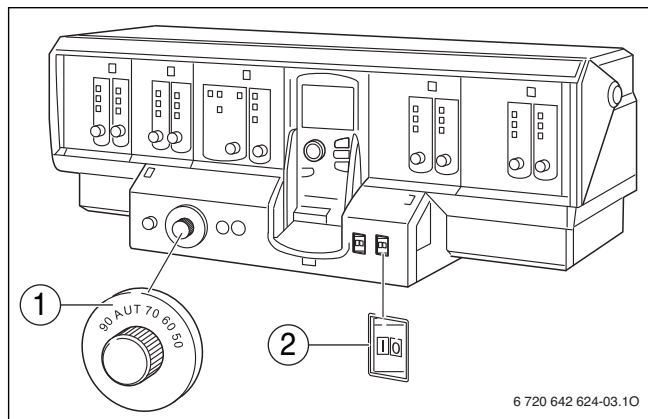

Fig. 4 Control panel Logamatic 4000
- ▶ Switch the boiler water thermostat (→ Fig. 4, [1]) to "AUT."
- ▶ Set the ON/OFF switch (→ Fig. 4, [2]) to "I" (ON).